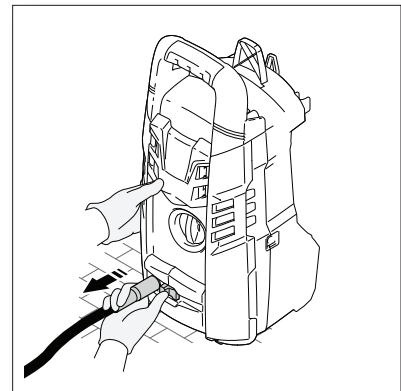

Fig. 5
- When not in use, disconnect the 20’ hose by pushing the lock the opposite direction and pulling firmly on the hose again **(Fig. 5)**.